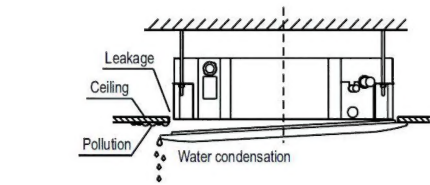

Fig.4-24
- Malfunction described in Fig.4-24 can be caused by inappropriate tightness the screw.